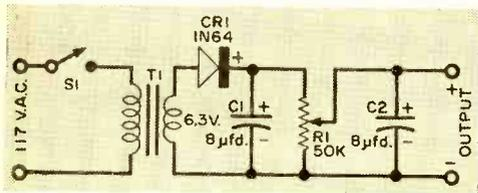

Fig. 1. Ron Wilensky's simple power supply.
**Power Supply.** An a.c.-operated power supply is useful for bench-testing experimental transistor amplifiers and oscillators. The circuit shown in Fig. 1, submitted by Ron Wilensky, Apt. 422, 920 E. 17th St.,